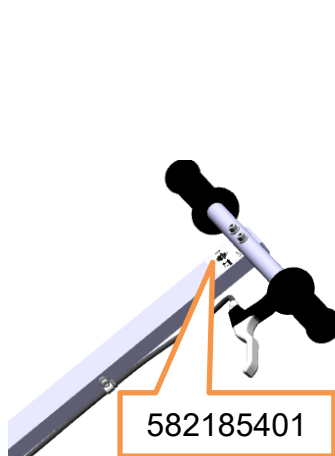
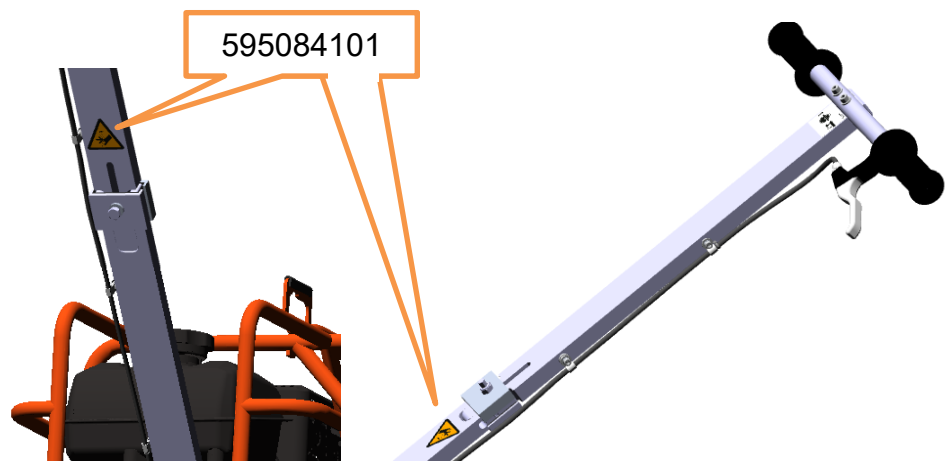

Figure 8:
Figure 9:
7. Attach one decal 582185401 according to figure 8 and two decals 595084101 according to figure 9.